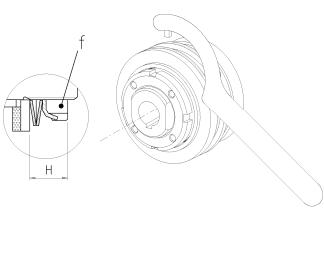

FIG. 10 : DF – GT
GHIERA CON BLOCCAGGIO A TACCHE "GT" (Gr.00.25-5.170 ; FIG.10 pos.f)
- NUT WITH NOTCHES LOCKING "GT"** (size 00.25-5.170 ; FIG. 10 pos.f)